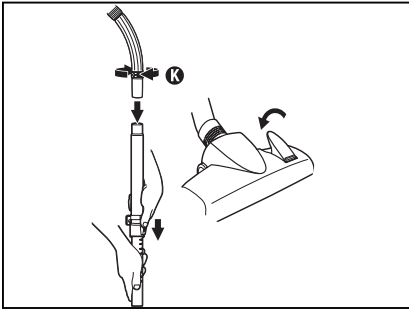

Fig. 6
Step 3: For models with telescopic wands, extend wands by pushing lock button down and pulling on lower wand until reaching desired height (Fig. 6).
Step 4: Adjust to maximum suction by closing the slip ring **K** on the hose handle (Fig. 6).
Step 2: Adjust to minimum suction by opening the slip ring **K** on the hose handle (Fig. 6).